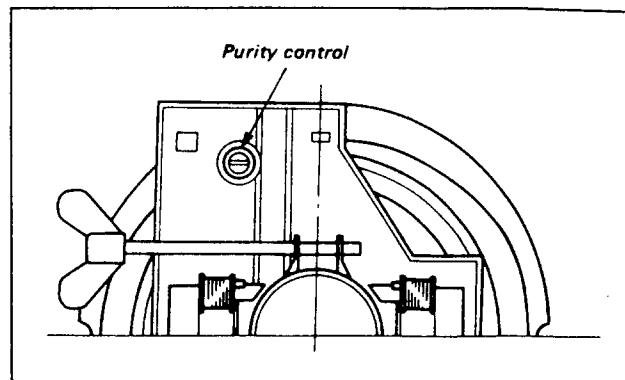
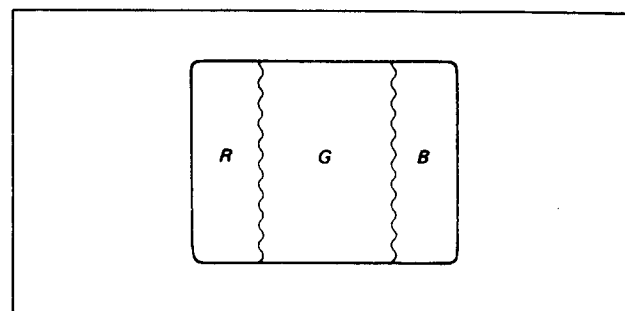

Fig. 2-2-1
Fig. 2-2-2
- 5) Move the DY backward and make a coarse adjustment with the purity control (see Fig. 2-2-1) so that the green raster is at the screen center. (see Fig. 2-2-2)